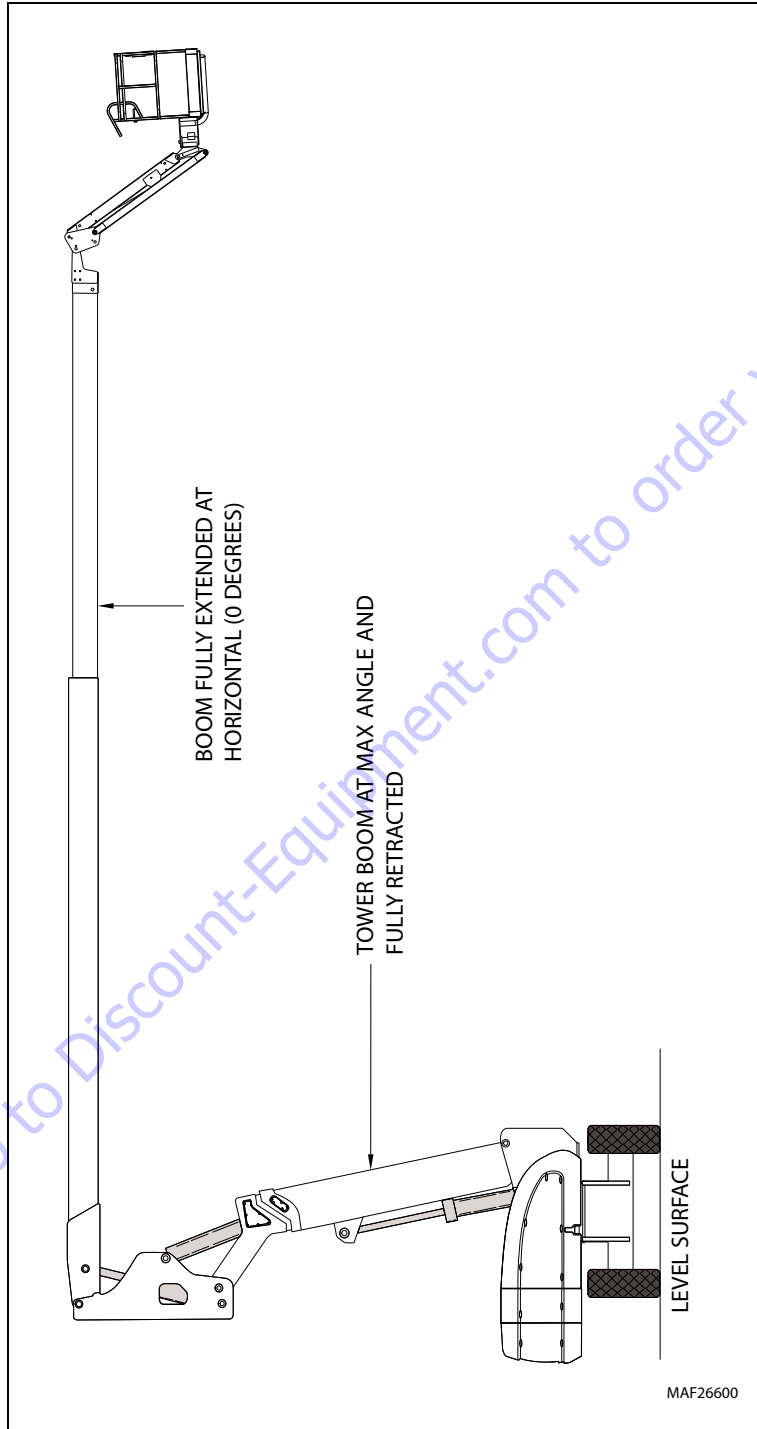
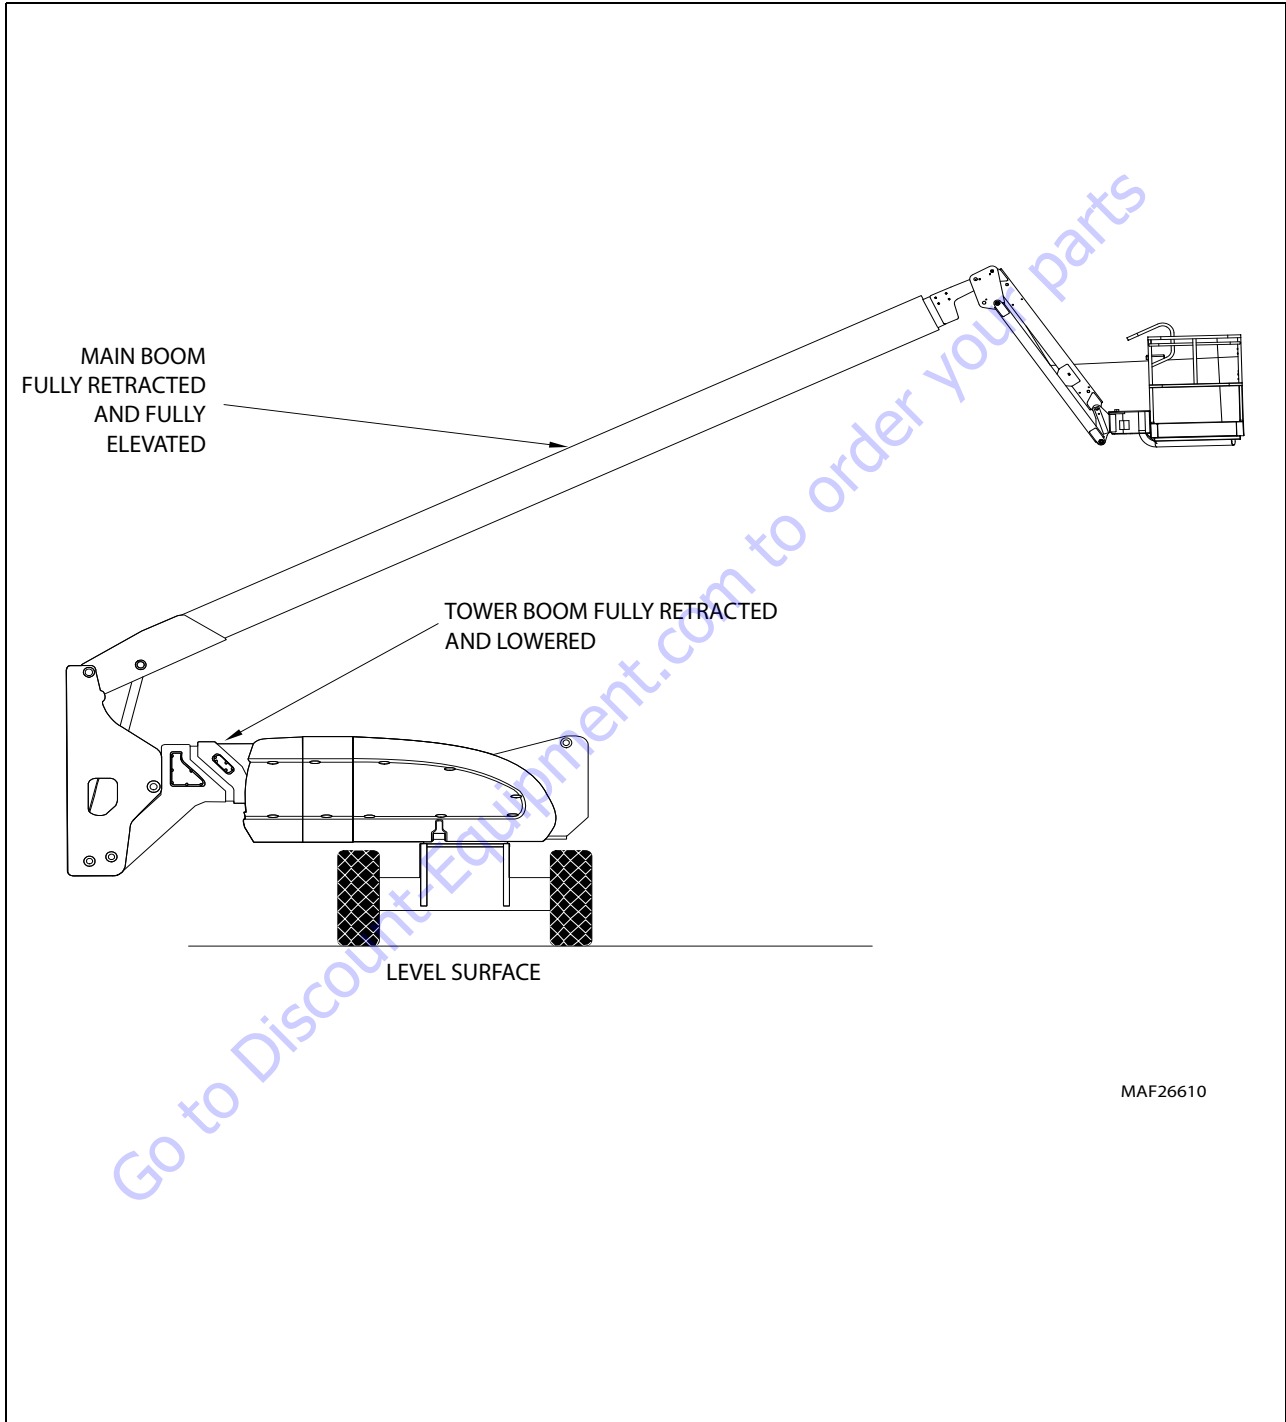
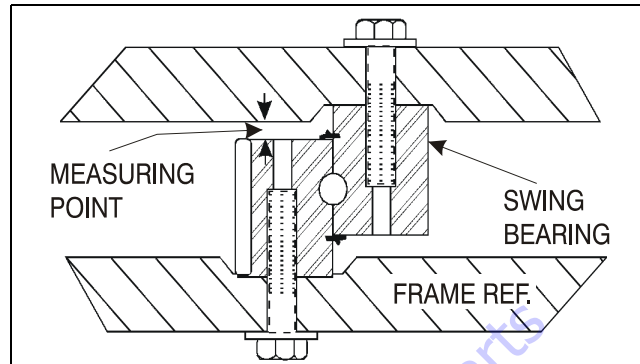

Figure 3-47. Swing Bearing Tolerance Boom Placement (Sheet 1 of 2)
Figure 3-48. Swing Bearing Tolerance Boom Placement (Sheet 2 of 2)
Figure 3-50. Swing Bearing Tolerance Measuring Point
- a. Elevate the fully extended main boom to horizontal. (See Figure 3-47.)
- a. Elevate the fully retracted main boom to full elevation. (See Figure 3-48.)
1. From the underside of the machine, at rear center, with the main boom fully elevated and fully retracted, and tower boom stowed, as shown in Figure 3-47., Swing Bearing Tolerance Boom Placement (Sheet 1 of 2), using a magnetic base dial indicator, measure and record the distance between the swing bearing and turntable. See Figure 3-50., Swing Bearing Tolerance Measuring Point
2. At the same point, with the main boom at horizontal and fully extended, and the tower boom fully elevated and fully retracted as shown in Figure 3-48., Swing Bearing Tolerance Boom Placement (Sheet 2 of 2). Using a magnetic base dial indicator, measure and record the distance between the swing bearing and turntable. See Figure 3-50., Swing Bearing Tolerance Measuring Point